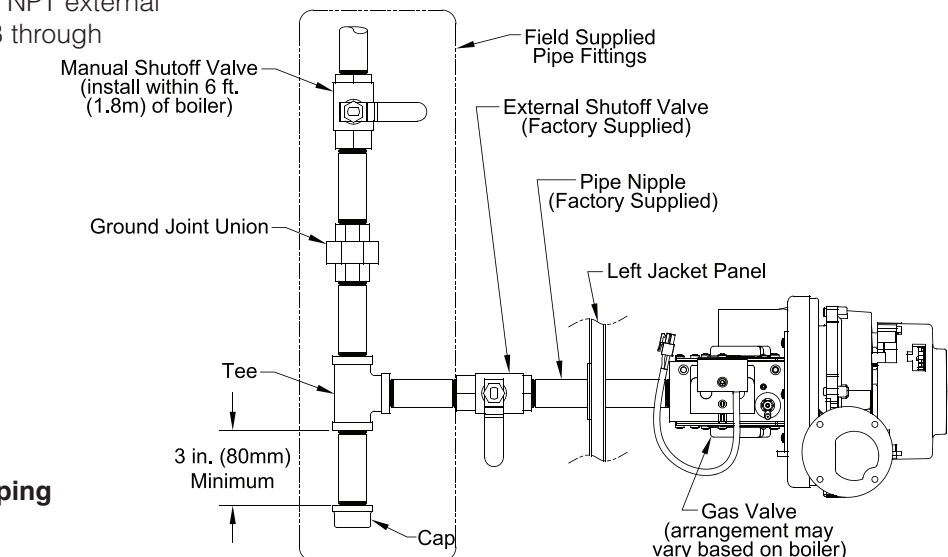

Figure 26: Recommended Gas Piping
- Install sediment trap, ground-joint union and manual shut-off valve upstream of mounted factory supplied manual shut-off valve. See Figure 26.
2. **Individual module (boiler) recommended gas piping detail** - see Figure 26.